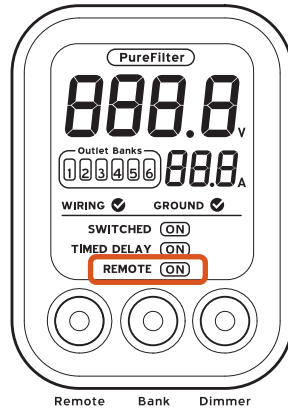

Figure 4b
- B. Press the "Remote" button on the front of the Power Console to turn on the remote function. The LCD display should read "REMOTE ON". (Fig. 4b)